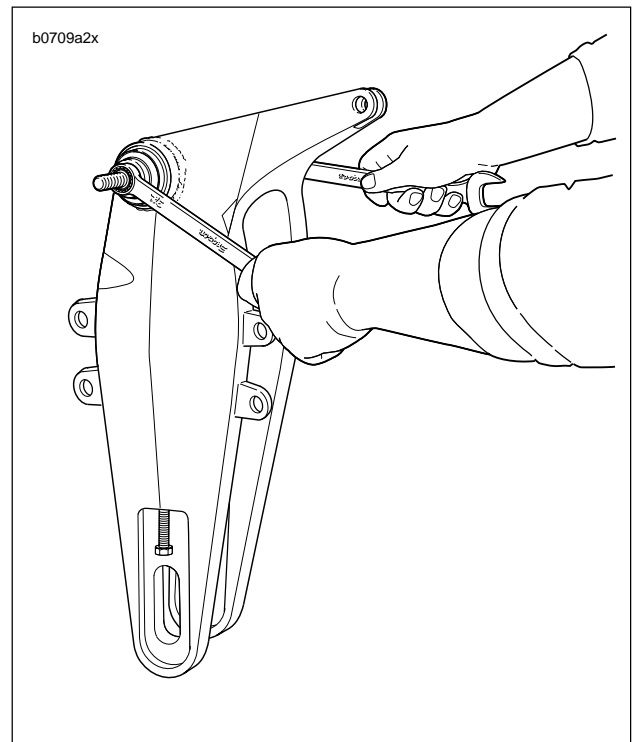

Figure 2-77. Installing Bearings into Swingarm
- See Figure 2-77. If necessary, draw **new** roller bearing cups into swingarm using BEARING INSTALLATION BOLT (Part No. B-35316-5) and STEERING HEAD BEARING RACE INSTALLER (Part No. HD-39302).